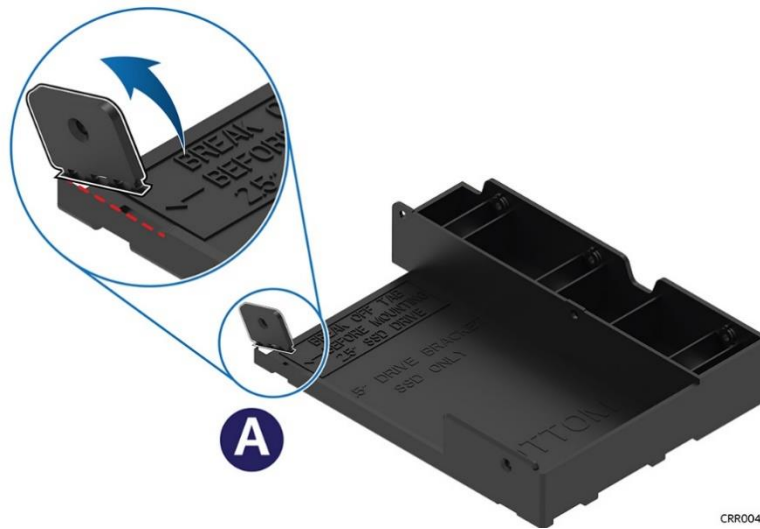

Figure 37. Installing a 2.5" SSD in a 3.5" drive carrier – tab removal
2. Break off the small side tab from the drive blank, making the drive blank into a device bracket (Figure 37). Once the side tab is removed, it cannot be re-attached to the drive blank.